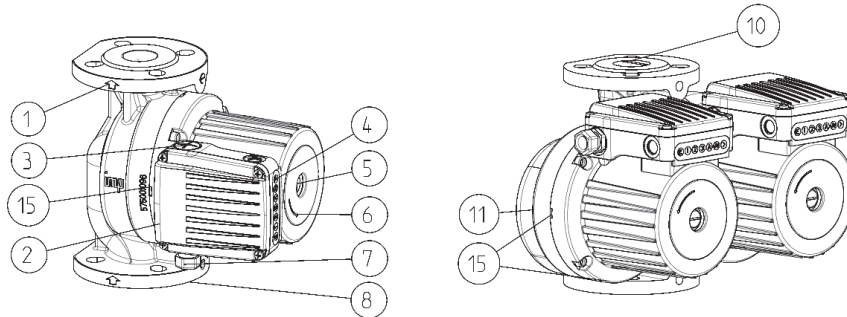
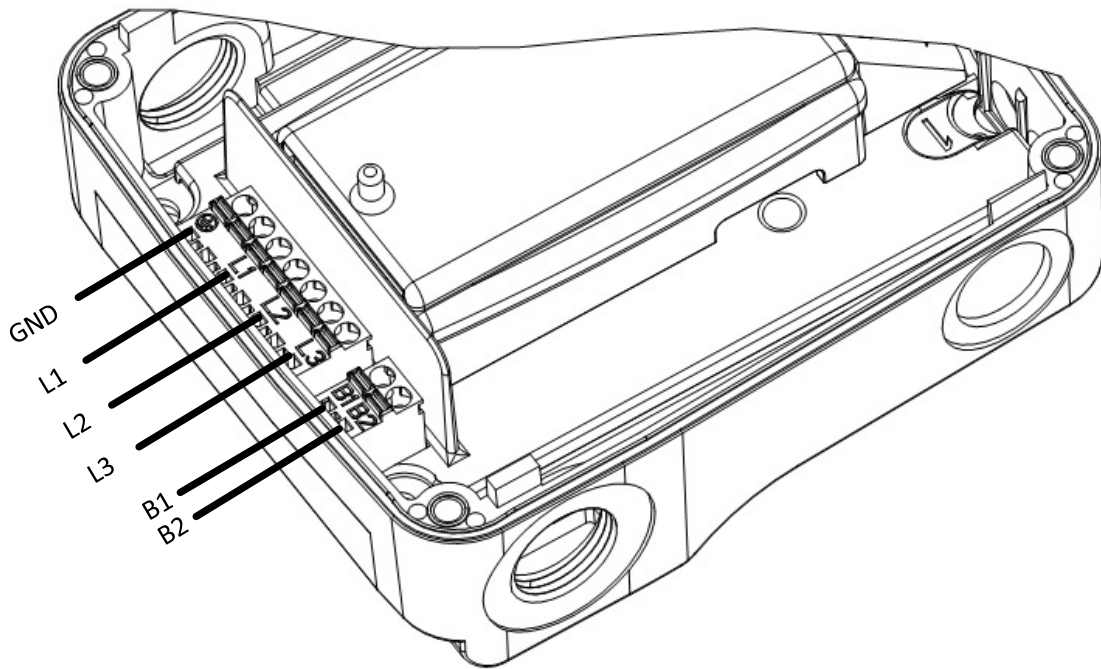
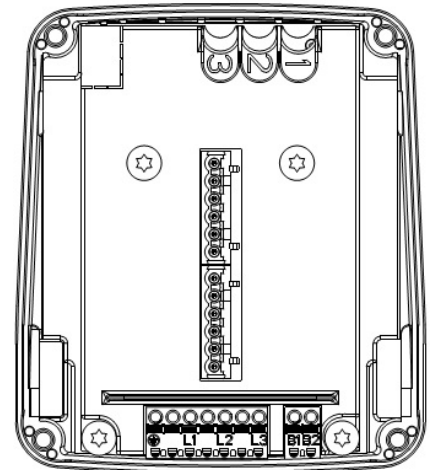

Figure 1 GHNbasic II (SANbasic II) and GHNDbasic II
Figure 3: Electrical scheme
Fig 5: Electronics without speed selector
Desired head orientation can be achieved by rotating the pump head (allowed positions shown in figure 1). Pump head is mounted to hydraulic casting with four screws. By unscrewing those, the pump head can then be turned.
The connecting wire has to be connected over a cable entry M20 (Fig. 1 - POS. 7).
Electrical connections of the pump must be carried out in accordance with the wiring diagram (Fig. 3), attached on the bottom of motor cover. Before doing that unwind the upper cover (Fig. 1 - POS. 2). By the standard IEC 60446 it is recommended to use the following electrical wiring order:
Each pump is able to cover the areas of three hydraulic characteristics. To achieve this, it has an inbuilt electric motor with three different speeds. For achieving the selected characteristics or speeds ① ② ③, the pump has a speed selector (Fig. 5). To change the speed, the upper cover has to be removed (Fig. 1 - POS. 2), then replace the speed selector to the desired speed.
Switch off the pump, close the valve on both pressure and suction sides of the pump, unscrew the vent for deaeration, place the screwdriver (Fig. 1 - POS. 5) in the notch on the shaft and twist as long as friction forces allow. Then screw the vent for deaeration.